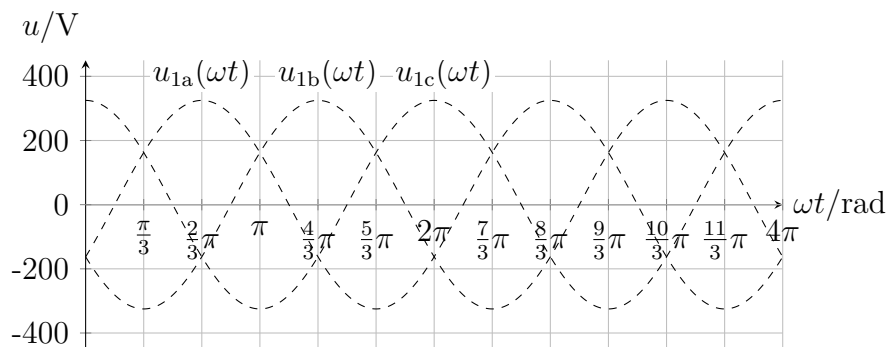

Figure 5: Output voltage  $u_2(t)$  for  $\alpha = \frac{\pi}{3}$ .
3.1 Draw the output voltage signal  $u_2(t)$  for the control angle  $\alpha = \frac{\pi}{3}$  into Fig. 5.